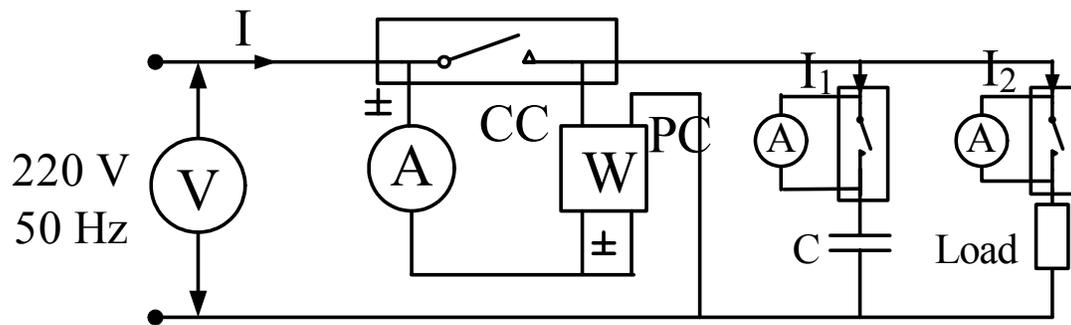

Figure 3.1: Test circuit
- 1) Connect the circuit as shown in Figure 3.1. Note that the variac is not needed!